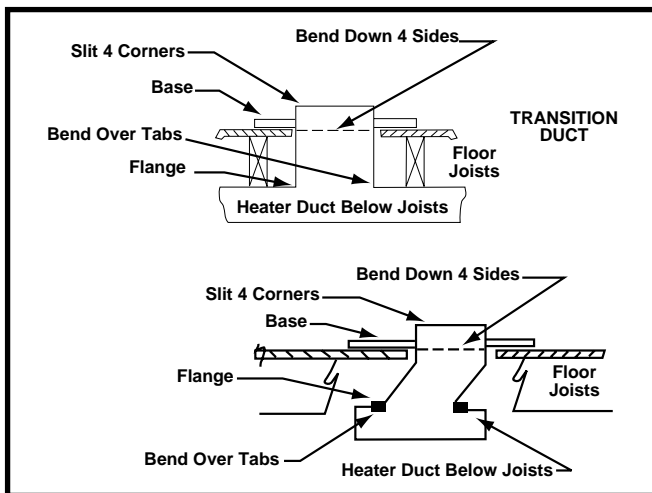

Figure 8. Transition & Offset Ducts
4. Drop transition or offset feeder duct (Figure 8) upside down through the floor opening and center the top of the feeder duct in 14-1/8" x 14-1/8" floor opening. Using the feeder duct as a guide, mark and cut a 12" x 12" opening in the supply duct.
4. Set the universal base in place. Drop transition or offset feeder duct (Figure 8) upside down through the floor opening and center the top of the feeder duct in 14-1/8" x 14-1/8" floor opening.